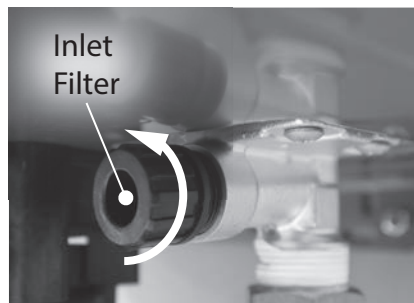

Figure 211 - Removing the inlet filter
- 8 Locate and remove the inlet filter as shown in Figure 211 to drain any residual water left in the system. Place a bucket or pan underneath inlet filter to collect water during removal.